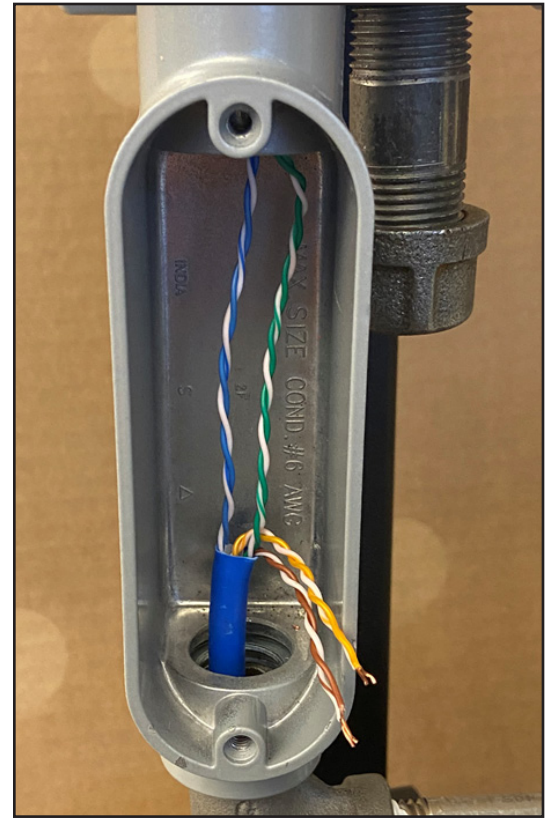

Figure 6: Routed ethernet cable
16. Lead the stripped end of the ethernet cable through the opening in the bottom of the 1218CT Power Converter Module, continue leading only the blue and green twisted pairs through the bottom of the 1218C console, while leading the orange and brown twisted pairs outside of the front opening in the middle of the conduit body, as shown in Figure 6.